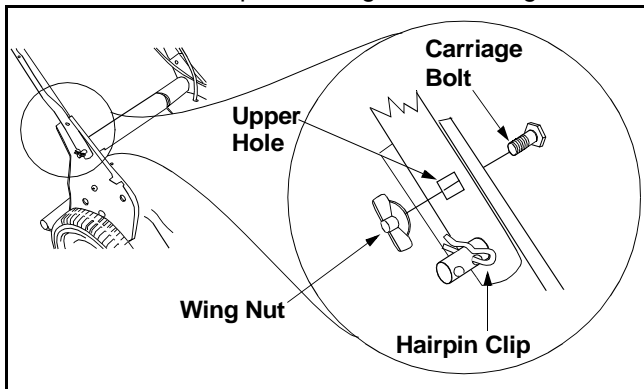

Figure 5
- Place each carriage bolt (found in the hardware pack included with your unit) in the upper hole of the handle mounting bracket from the inside out. Secure with the plastic wing nuts. See Figure 5.